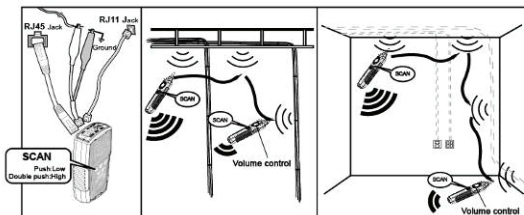

Figure 3 Locating cables
To locate cables, do the following steps (Figure 3) :
1. Connect the black alligator clip of the Transmitter to the ground, and then connect the red clip to a jack or punch-down block as shown in Figure 3.
2. As the Figure 3 shown, when push , the red indicator of "POWER/ BAT LOW" will light up and turn on the power.
3. As the figure 3 shown, put the receiver function switch at "**scan**", the red indicator in the middle will light up, and long press  on receiver to operate cable tracing function. The tracing sound will be output from speaker. When put on the earphone, there will be no sound from speaker, but from the earphone.